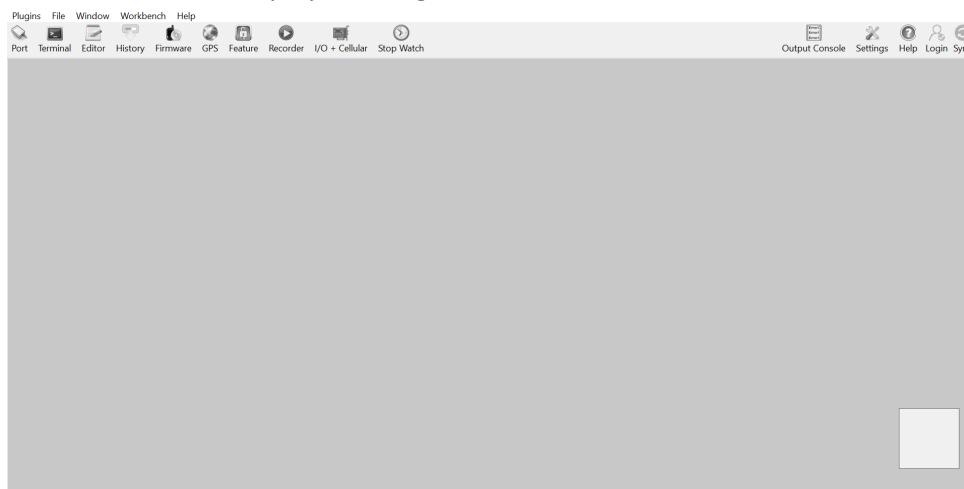

Figure 9: Workbench Interface
4. The Workbench UI displays (see **Figure 9**)